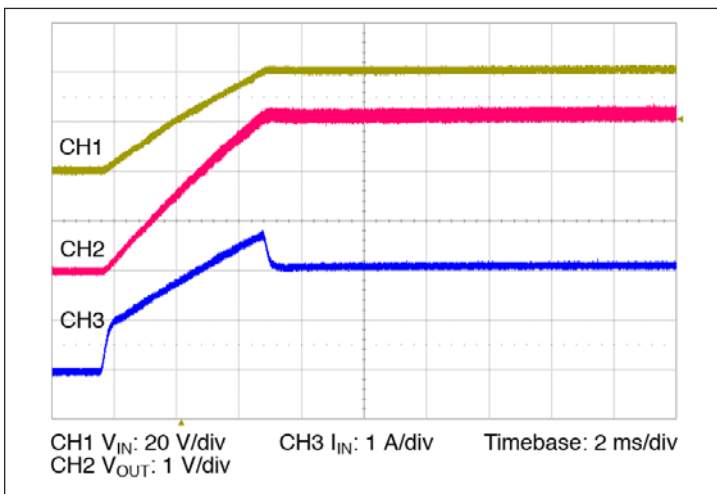

Figure 13 — Start up from application of V_{IN} ; V_C pre-applied $C_{OUT} = 0 \mu$ F
- Normal Operation (VC applied prior to V_{IN}): In this case the controller is active prior to ramping the input. When the input voltage is applied, the VTM output voltage will track the input (See Figure 13). The inrush current is determined by the input voltage rate of rise and output capacitance. If the VC voltage is removed prior to the input reaching 26 V, the VTM module may shut down.